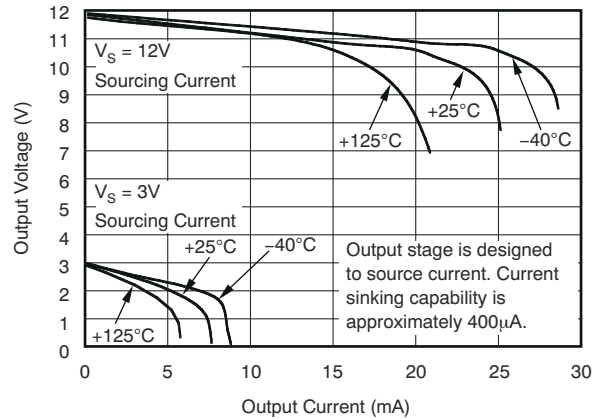

图 6-8. Positive Output Voltage Swing vs. Output Current
- (1) Offset is extrapolated from measurements of the output at 20 mV and 100 mV  $V_{SENSE}$ .
- (2) Total output error includes effects of gain error and  $V_{OS}$ .
- (3) Linearity is best fit to a straight line.
- (4) For details on this region of operation, see the Accuracy Variations as a Result Of  \$V\_{SENSE}\$  and Common-Mode Voltage section in the Application and Implementation.
- (5) See Typical Characteristic curve *Positive Output Voltage Swing vs. Output Current* (图 6-8).
- (6) Specified by design; not production tested.